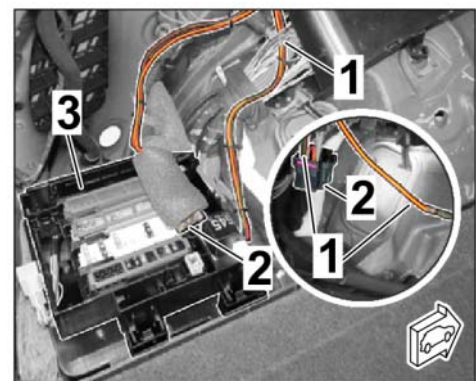

Figure 11
- 2.3.5 Route RD/GN and RD/YE lines to connector B (preparation). (⇒ *Figure 11*).
Release connector B, connect lines RD/GN and RD/YE as described in Step 2.3.2 (⇒ *Figure 11-Magnifier-*).